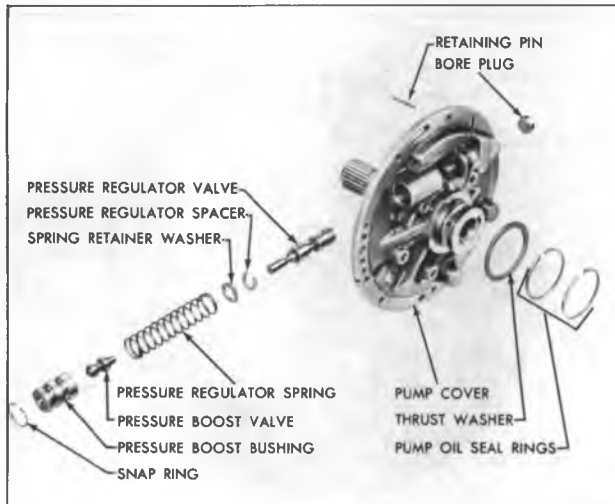

Figure 54—Oil Pump Components
### DISASSEMBLY (Fig. 54)
3. Install spacer(s) if used, retainer and spring, into pressure regulator bore (fig. 54).
9. Install two (2) hook type oil seal rings.